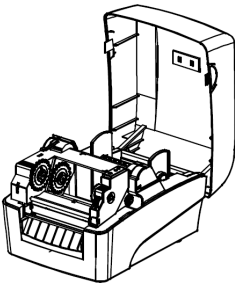

Figure 2.2.1
- 1) Hold the cover open lever with both hands to turn the top cover upwards, and open the top cover of printer (see figure 2.2.1); (see figure 2.2.1);